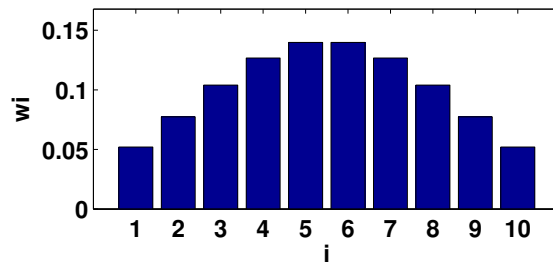

Figure 2.7: Example distribution for 10 rays using a Gaussian width of 1.0 (default)
- `gaussianWidth`: width of the Gaussian distribution of sensor rays weights. When averaging the sensor's response, the particular weight of each sensor ray is computed according to a Gaussian distribution as described by the formula in figure 2.6 where w_i is the weight of the i th ray, t_i is the angle between the i th rays and the sensor axis, a is the aperture angle of the sensor, g is the gaussian width, and n is the number of rays. As depicted in figure 2.7, rays in the center of the sensor cone weight more than the rays in the periphery. A wider or narrower distribution can be obtained by tuning the `gaussianWidth` parameter. An approximation of a flat distribution is obtained if `gaussianWidth` is chosen large enough.